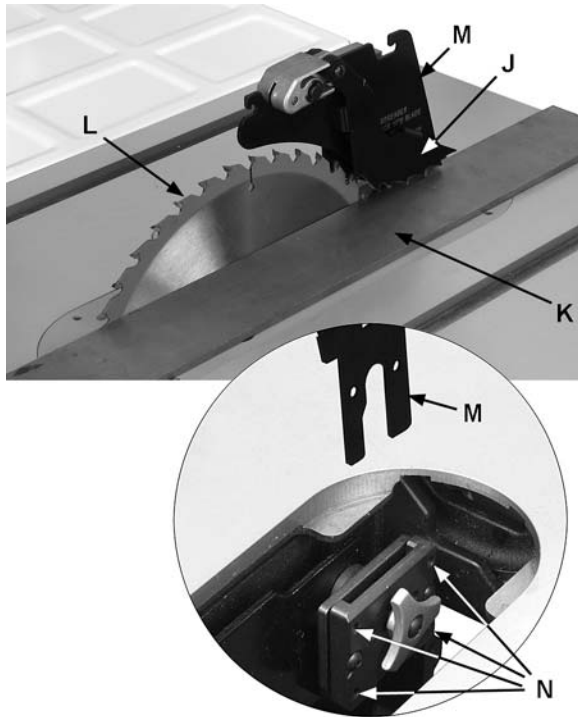

Figure 17
Referring to Figure 17:
3. Move straight-edge aside, and through the opening locate four set screws (N) at the corners of the clamp block. See inset, Figure 17 (riving knife removed for clarity).